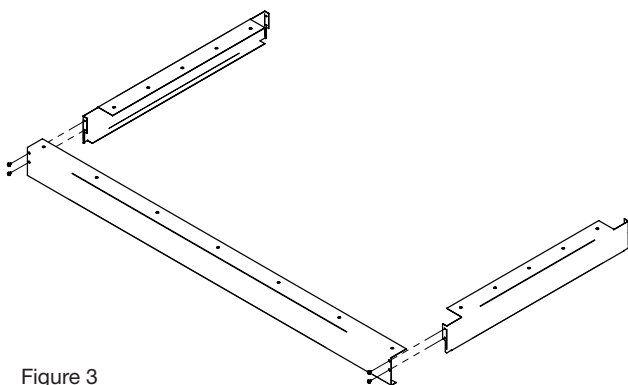

Figure 3
2. Assemble two end caps onto one of the side rails using the white screws (Fig. 3).